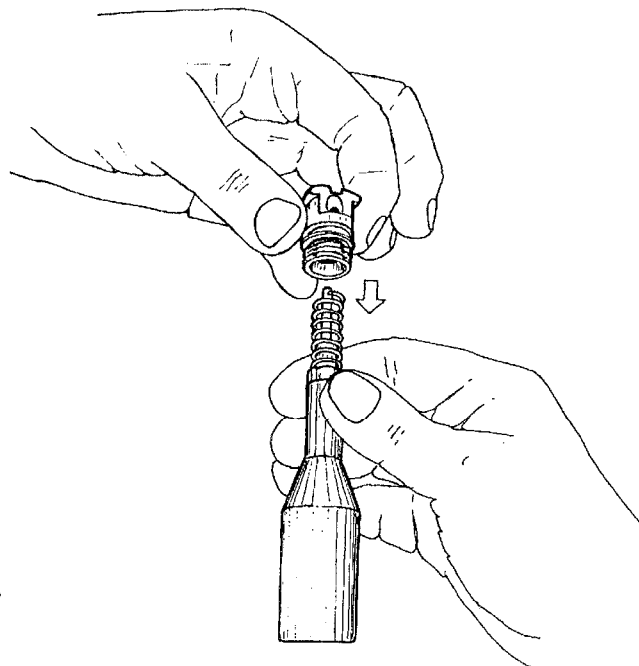

FIG. 3
3. Reassemble the poppet body (92) on the 2nd stage poppet stem (30).
4. Insert the rubber poppet seat (47) into the plastic poppet body (92).
5. Place the 2nd stage poppet assembly and the spring (31) onto special tool (B-6).
6. Insert 2nd stage poppet and spring (31) into the poppet housing (91), gently pressing (Fig. 3).